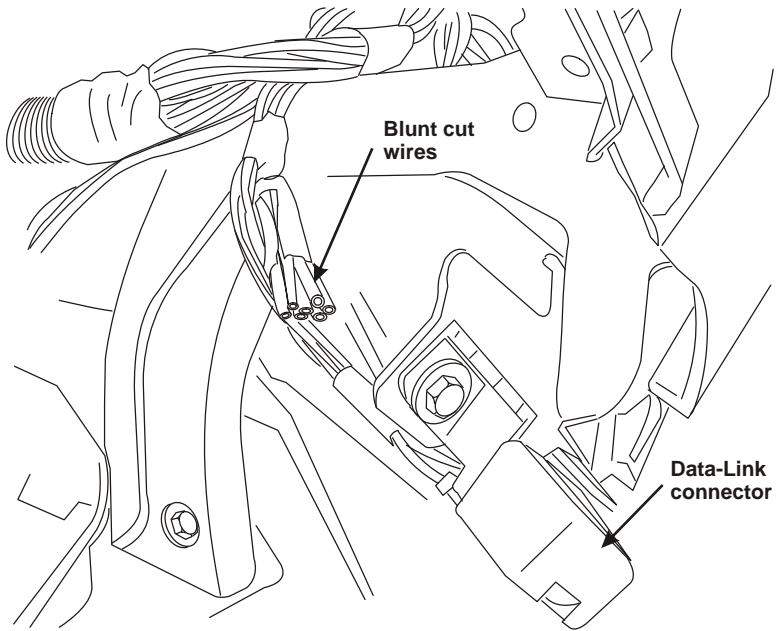

Figure 4.6
- Locate the key-switched 12V OEM wire under the dash. The wire is grey with a light blue stripe (Figure 4.6).